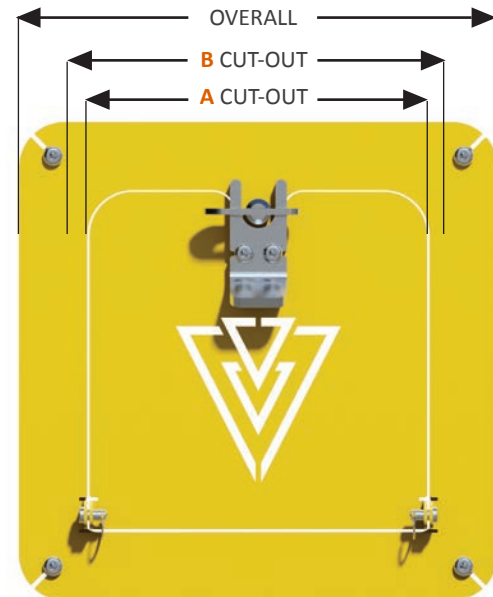

FIGURE 1
- › Optional guide box inserts (Figure 1)